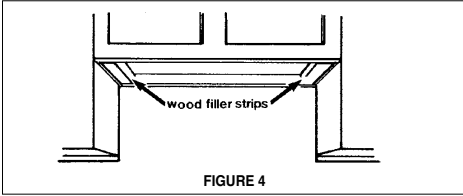

FIGURE 4
3. If the cabinet bottom is recessed, wood blocks need to be installed to insure proper alignment with the cabinet bottom. Wood blocks should be flush or recessed  $1/16''$  to  $1/8''$  within the cabinet bottom as indicated in **FIGURE 4**.